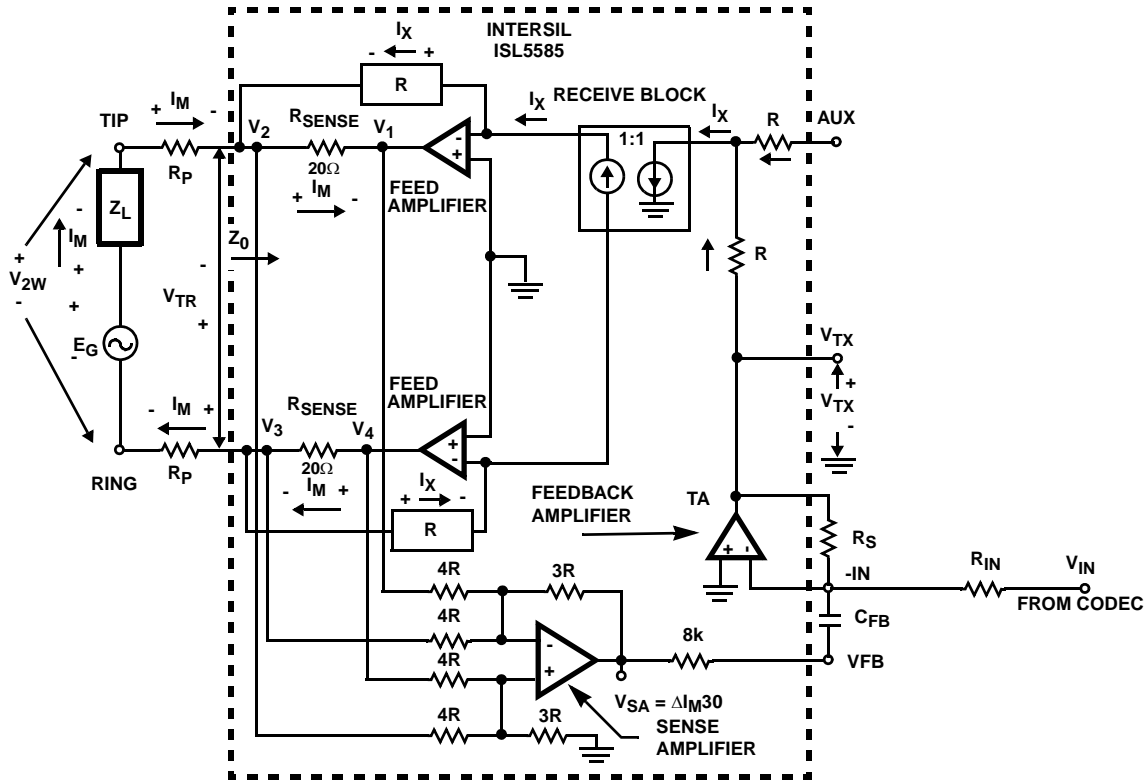

FIGURE 4. AC SIGNAL TRANSMISSION MODEL
The feedback mechanism for monitoring the AC portion of the loop current consists of two amplifiers, the Sense Amplifier (SA) and the Transmit Amplifier (TA). The AC feedback signal is used for impedance synthesis. A detailed model of the AC feed back loop is shown in Figure 4.
The Sense Amplifier is configured as a 4 input differential amplifier with a gain of 3/4. The voltage at the output of the sense amplifier ( $V_{SA}$ ) is calculated using superposition.  $V_{SA1}$  is the voltage resulting from  $V_1$ ,  $V_{SA2}$  is the voltage resulting from  $V_2$  and so on (reference Figure 4).
$V_{TR}$  is defined in Figure 4, note polarity assigned to  $V_{TR}$ :
Node Equation at ISL5585 AUX input, Figure 4
4-wire to 2-wire gain across the ISL5585 is equal to the  $V_{2W}$  divided by the input voltage  $V_{IN}$ , reference Figure 4. The receive gain is calculated using Equation 32.
The 2-wire to 4-wire gain is equal to  $V_{TX}/E_G$  with  $V_{IN} = 0$ , reference Figure 4.